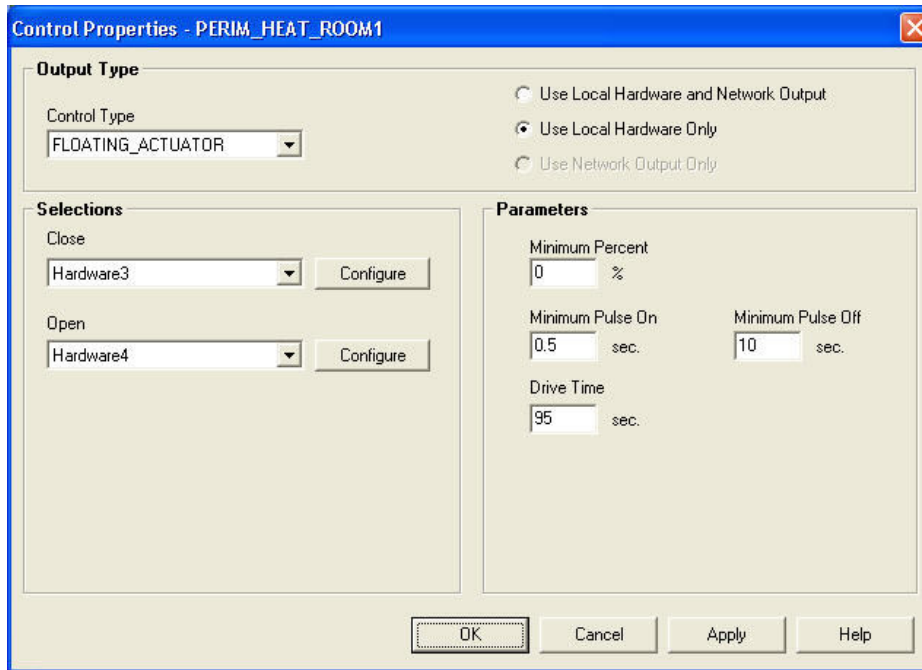

Figure 18: Control Properties Perimeter Heating
13. Select PERIM_HEAT_ROOM1 from the second Equipment Type drop-down menu. The Control Properties window opens (Figure 18).